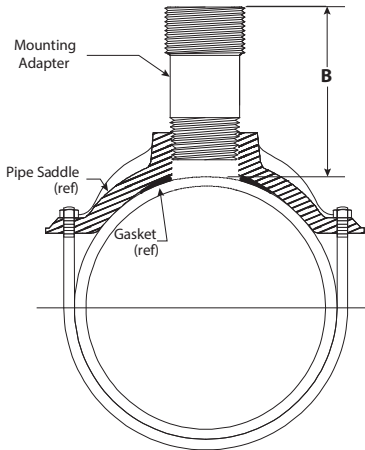

Figure 5: Dimension B
- b. Next, measure from the outside wall of the pipe to the top of the installed mounting adapter, this is dimension B in Figure 5.
- b. Next, measure from the outside wall of the pipe to the top of the installed mounting adapter, this is dimension B in Figure 5 on page 6.